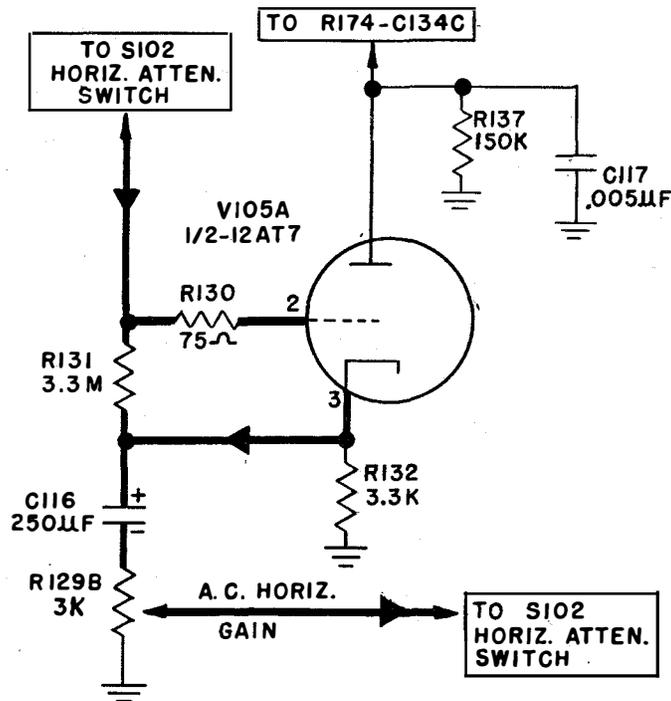

Figure 2-6. Horizontal Cathode Follower
(2) CATHODE FOLLOWER. (See Figure 2-6)